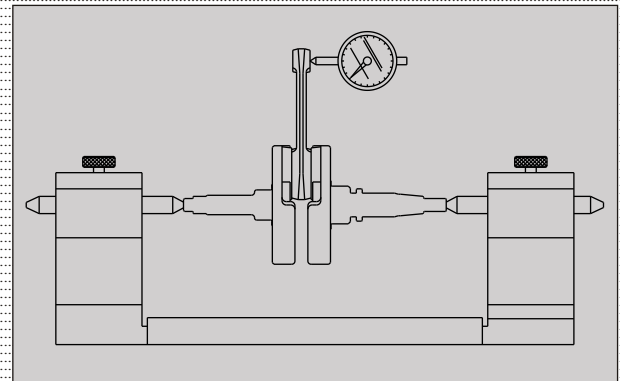

Fig. 3.155
- Measure big end wear of connecting rod by the deflection of small end. If deflection exceeds the limit, replace the crankshaft assembly with a new one. (Fig. 3.155)